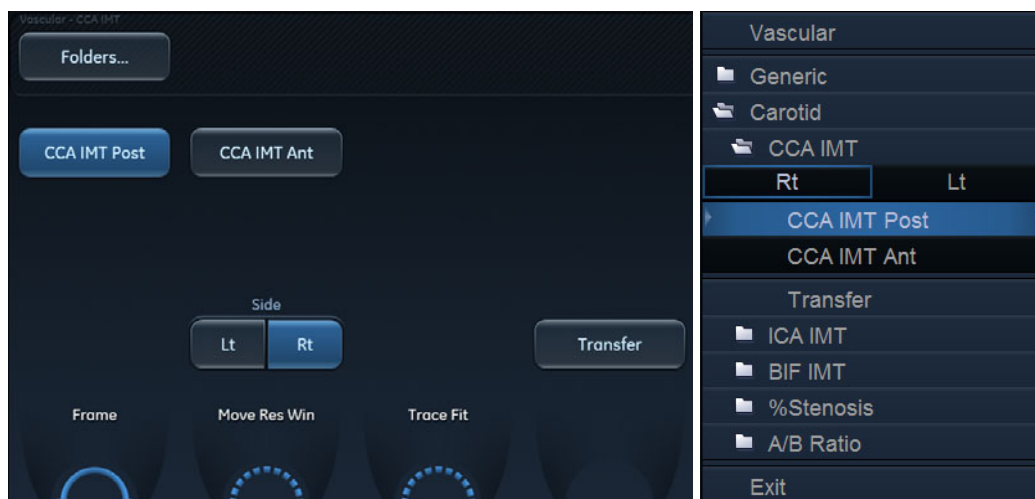

Figure 8-48. IMT Measurement menu (Right Common Carotid Posterior IMT measurement tool)
5. Select the appropriate IMT measurement. If measuring the IMT of the posterior wall of the right common carotid select **Rt** and **CCA IMT Post** (Figure 8-48).